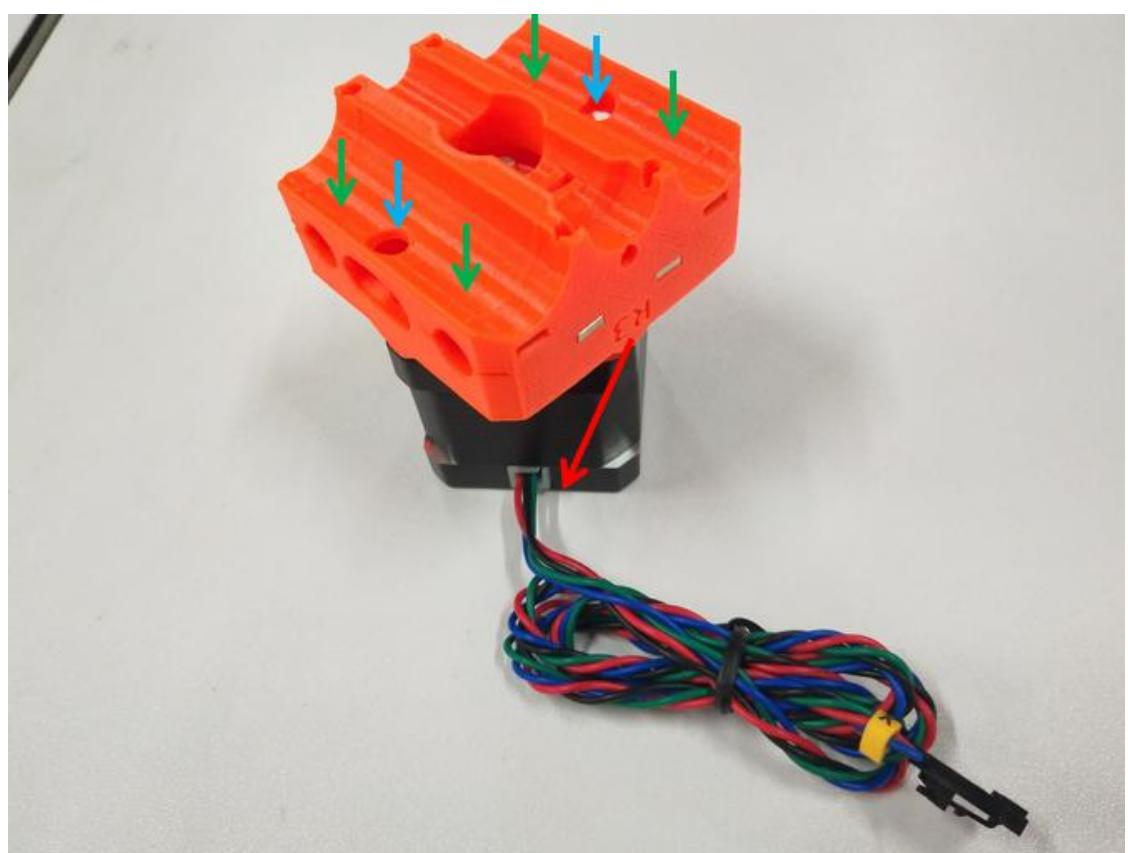

Figure 2.7.3
**Step 2-7-3:** as shown in Figure 2.7.3